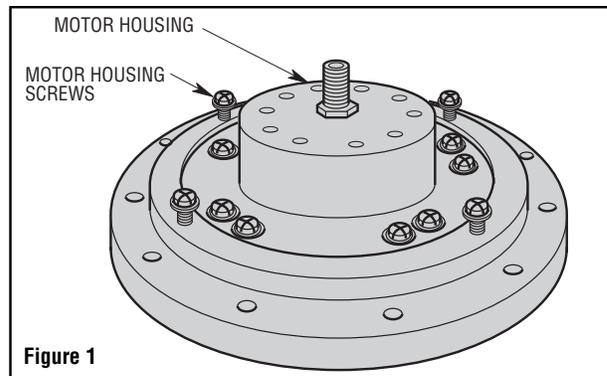

Figure 1
1. Remove one of the motor housing screws and retain for future use. Loosen the remaining three motor housing screws for assembly of the lower glass retainer (Figure 1).